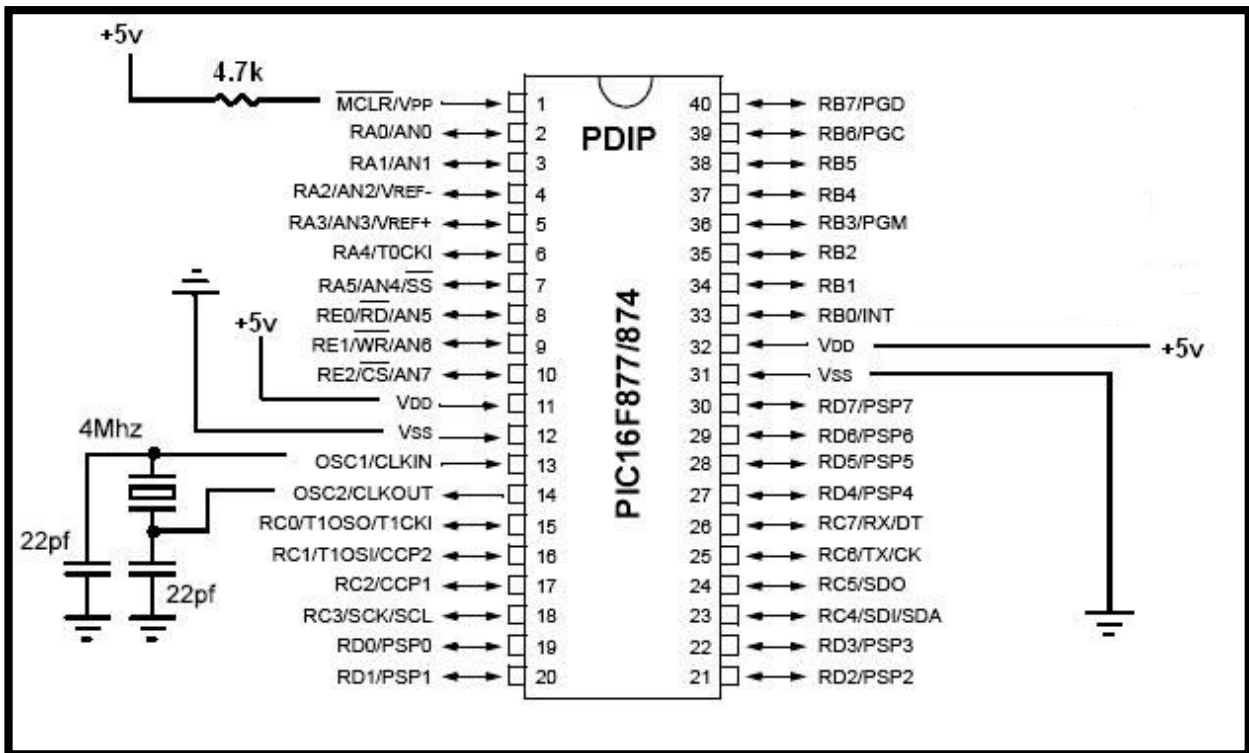
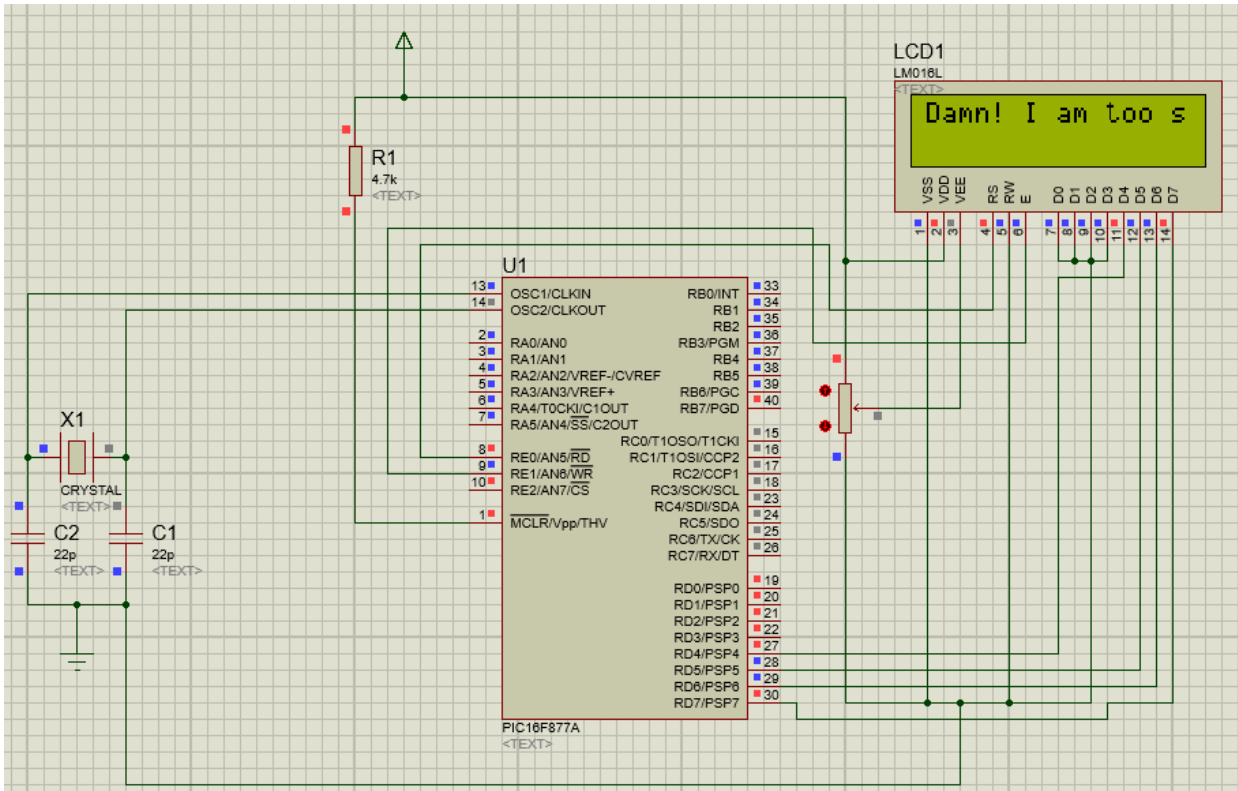

Figure 6: PIC16F877A Microcontroller Interfacing Circuit
Figure 7: LCD Interfacing
After finishing from deploying the HEX file on PIC, the last step is constructing the hardware circuit to run the program and see how it works on real time. Figure 7 shows the circuit to interface the PIC. It is clear that you need two **22pf capacitors**, **one 4MHz external crystal oscillator**, **one resistor**, and power supply to get **5 volts**. Figure 6 shows PIC activation connections.
3. Compile the project and simulate it using **Proteus ISIS** (Add LM016L and POT-LN to the list of the LEDs program) and **Real Pic Simulator**, use connections as in **Figure7**.
3. Apply the connections as in **Figure 7**.